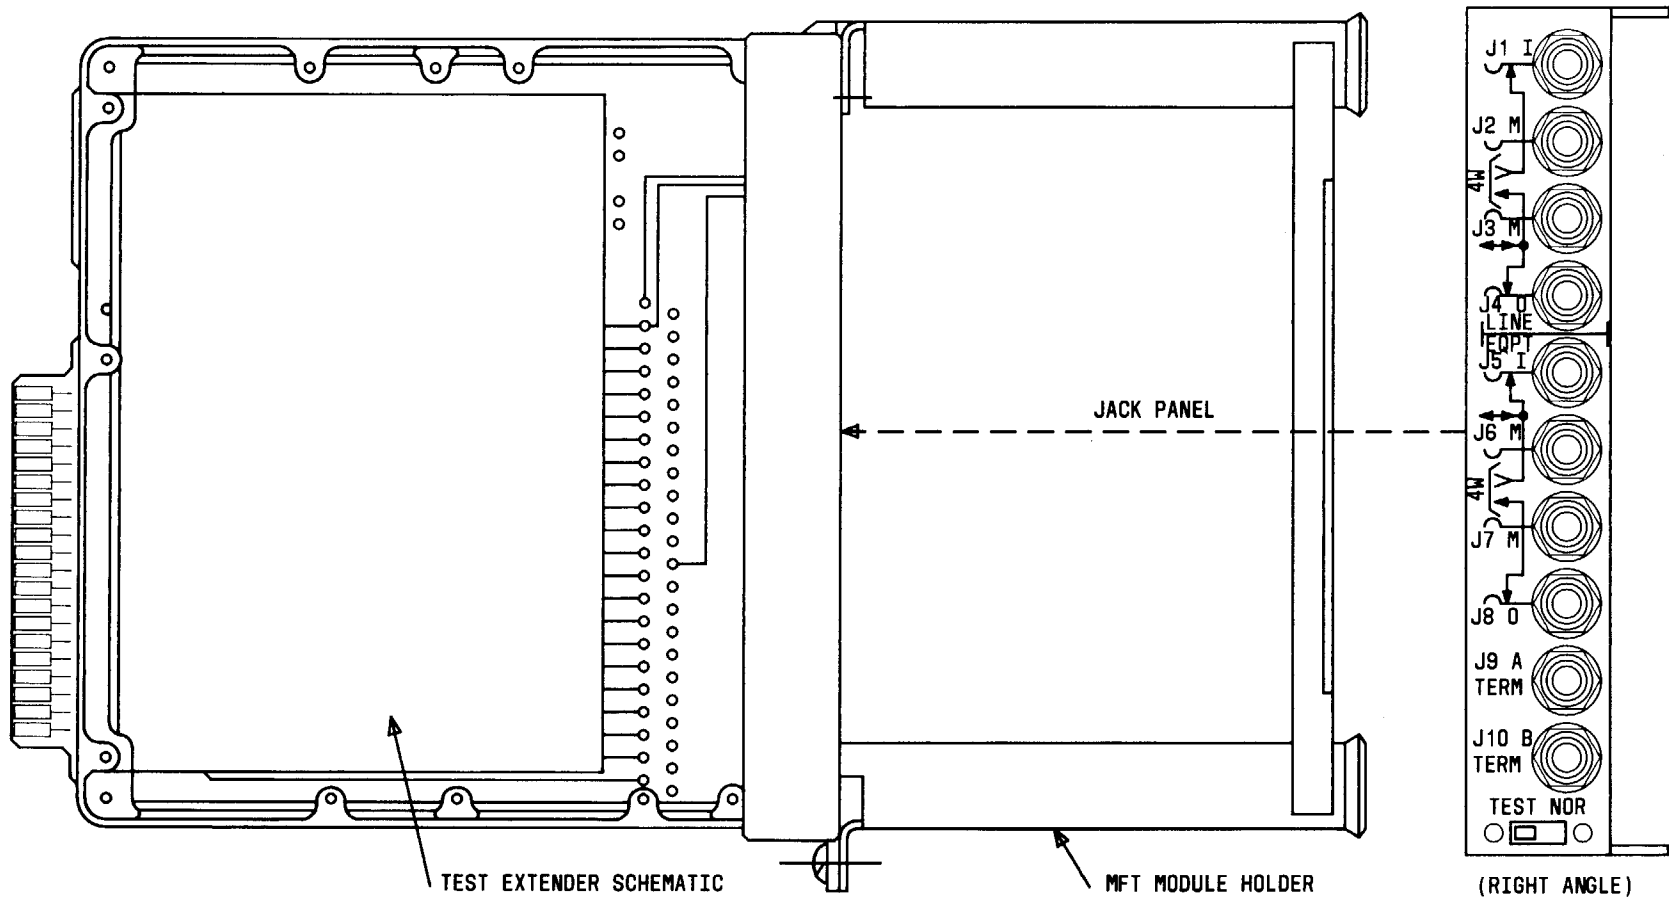

Fig. 4—J99400TA Test Extender
5.01 The J99400TA test extender assembly (SD-7C094) has been designed for use with the J99400 family of housings but can be used on any MFT shelf. This test extender provides for full extension of a powered MFT module outside the housing. This permits complete access to adjustments on the MFT module under test as well as adjustments on the test extender itself. The J99400TA test extender is illustrated in Fig. 4. A functional schematic decal for the test extender jack field and switches is mounted on the wiring side of the printed wiring board as an aid to the user.